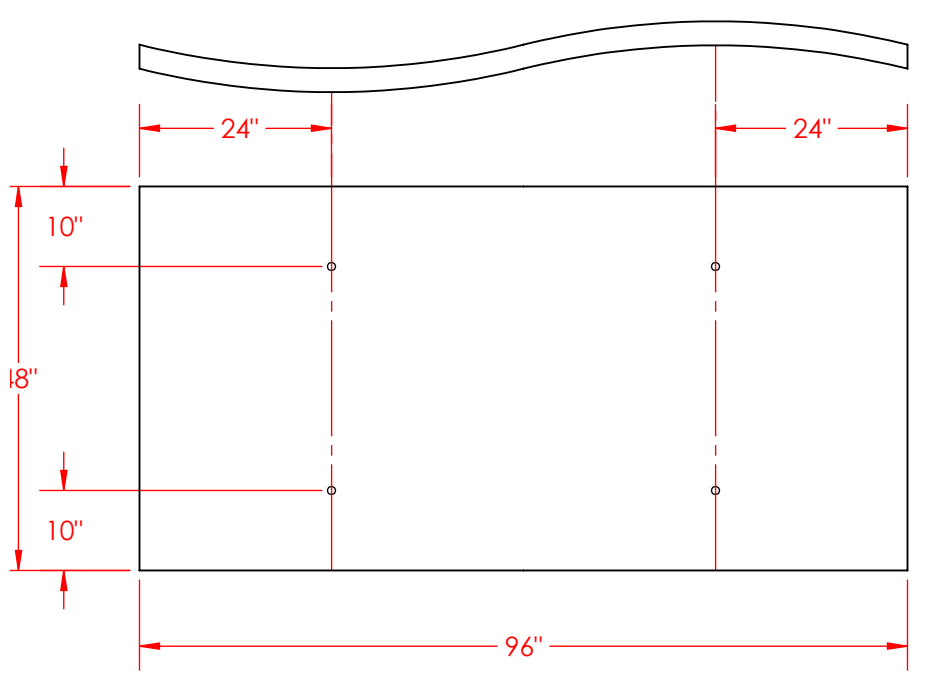

Figure 2: 48" x 96" Wave Ceiling Cloud
1. For horizontal application, each wave ceiling cloud should be equipped with four 1¼" or 2⅞" (depending on thickness of panel) long corkscrew hangers. Maximum distance between hangers should be no greater than 24" for wave ceiling clouds. Use the diagram shown in **Figure 2** below as a guide.